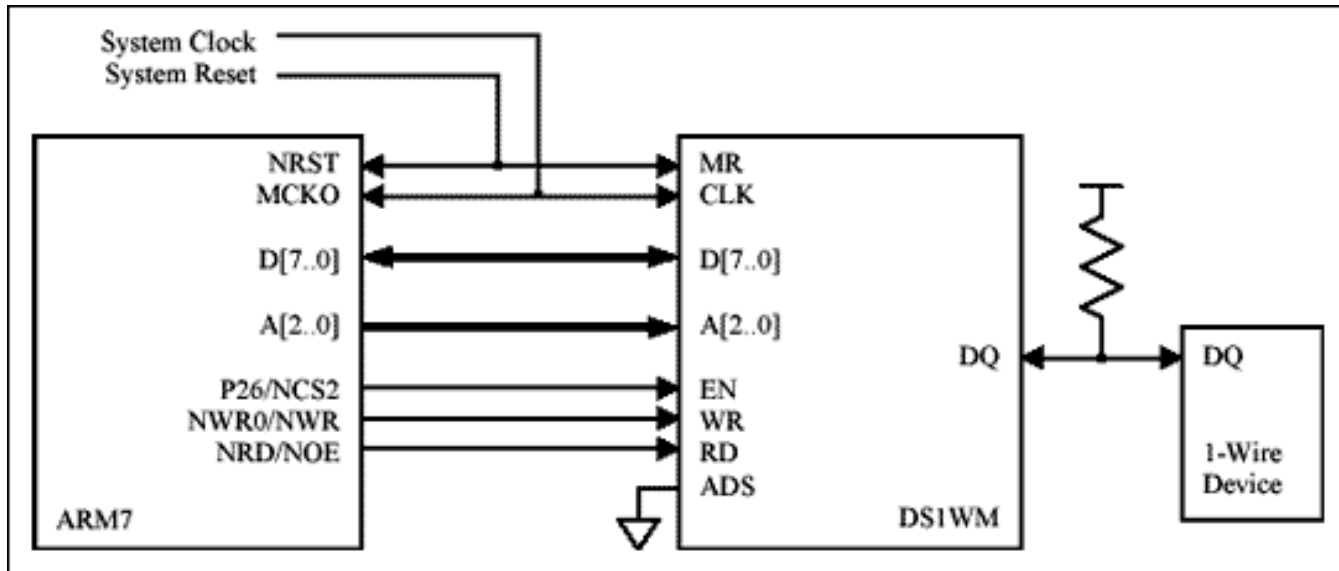

Figure 1. Bus connections between ARM7 and DS1WM.
The 1-Wire Master requires no external components to map into the ARM7's data bus. **Figure 1** shows all necessary connections. The example figure uses one of the ARM7's programmable chip select lines (NCS2) to generate the enable pulse for the DS1WM. However, any negative logic chip select generated by the ARM can be used. The DS1WM's Master Reset (MR) and Clock (CLK) should be connected directly to the system reset and clock. The Address Strobe (ADS) is not used for interfacing to the ARM7 and must be grounded.